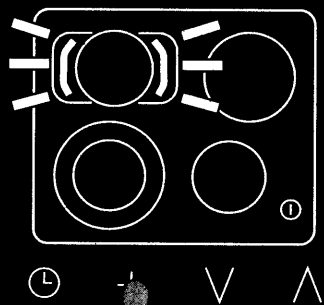

Fig. 5
- ... touch the symbol +. **P3** flashes on the timer display panel. The symbol for combination feature  flashes on the display of cooking zone 2 (back left) (fig. 5).